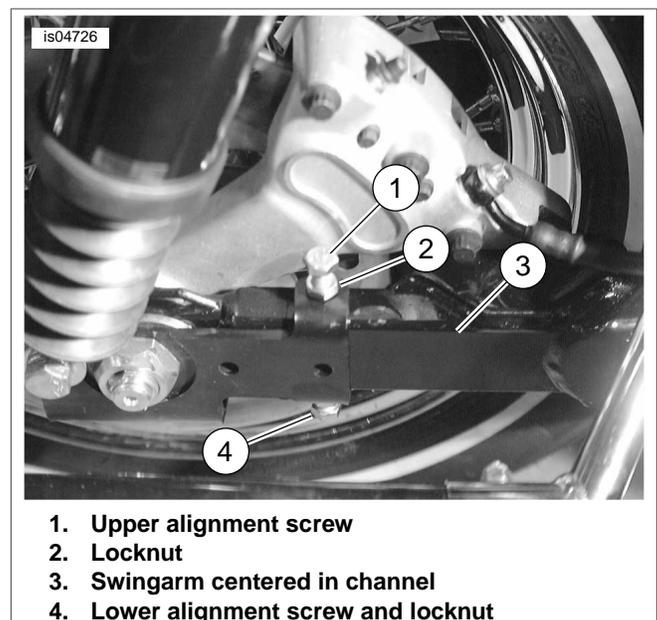

Figure 6. Install Bracket Alignment Screws (2007 and Earlier Shown)
17. See Figure 6. Install nut on the screw and spin up toward screw head. Repeat for the other screw and nut. Install the screws with nuts into the upper and lower holes near the front of the bracket assembly surrounding the swingarm. While maintaining a centered location for the swingarm in the bracket channel, snug the screws in place so there is no up or down movement.